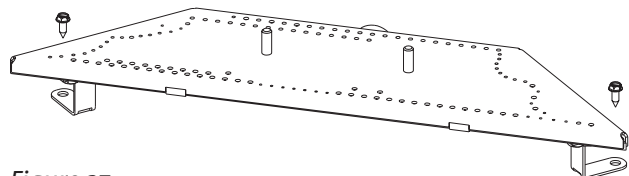

Figure 27.
7. **Lift out the Burner Plate** with removal of two screws from the firebox floor. See fig. 27.